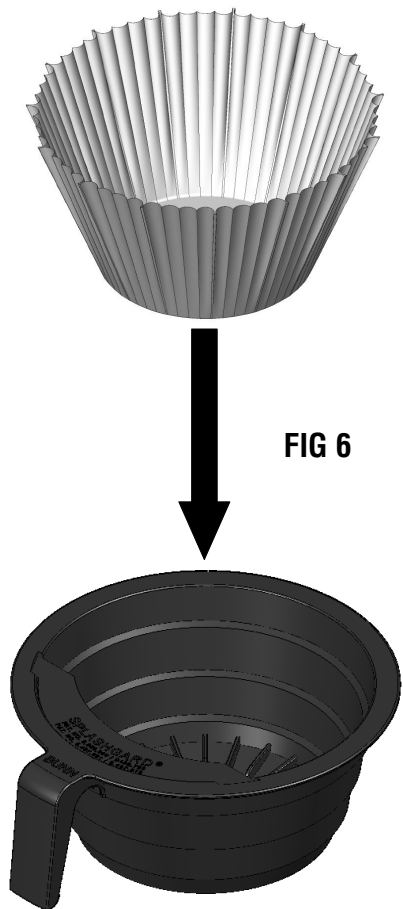

FIG 6
2. Insert a BUNN filter into the funnel. (FIG 6)